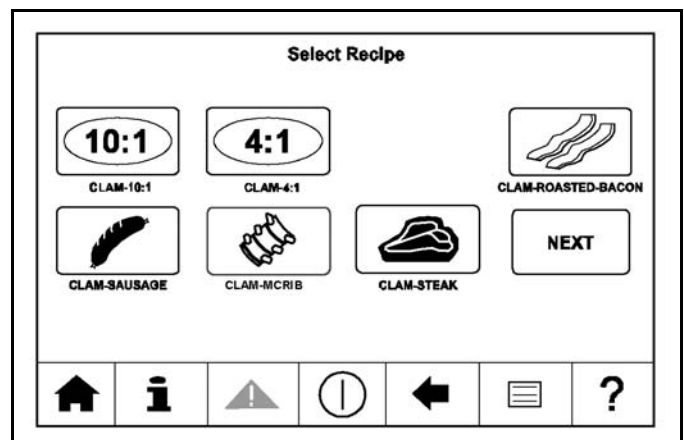
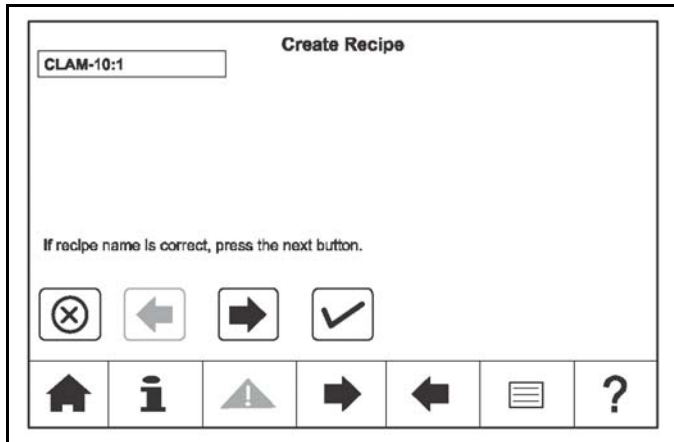

Figure-63
Figure-64
8. If the name is not correct, press the menu item to select the recipe you want to edit. See Figure-63 and Figure-64.